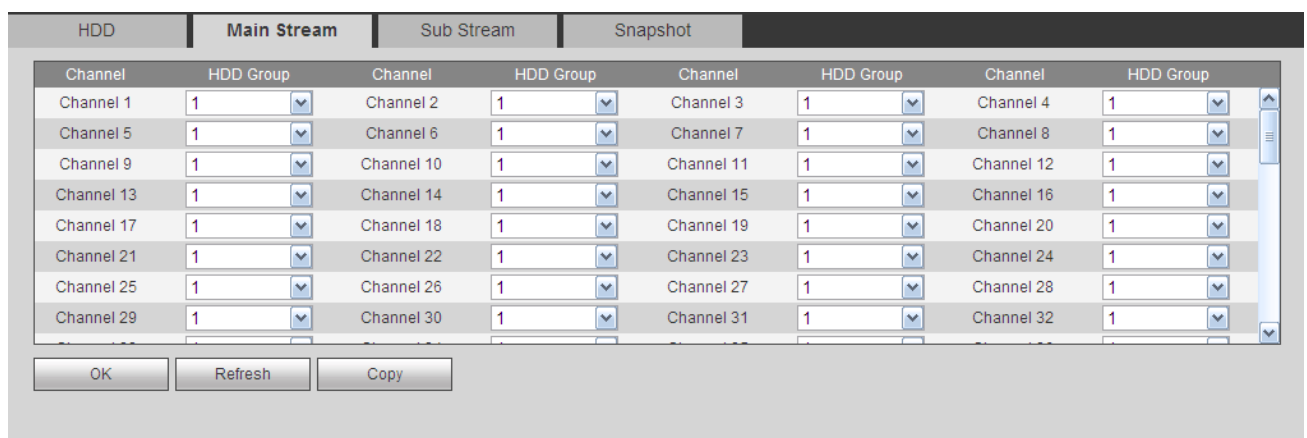
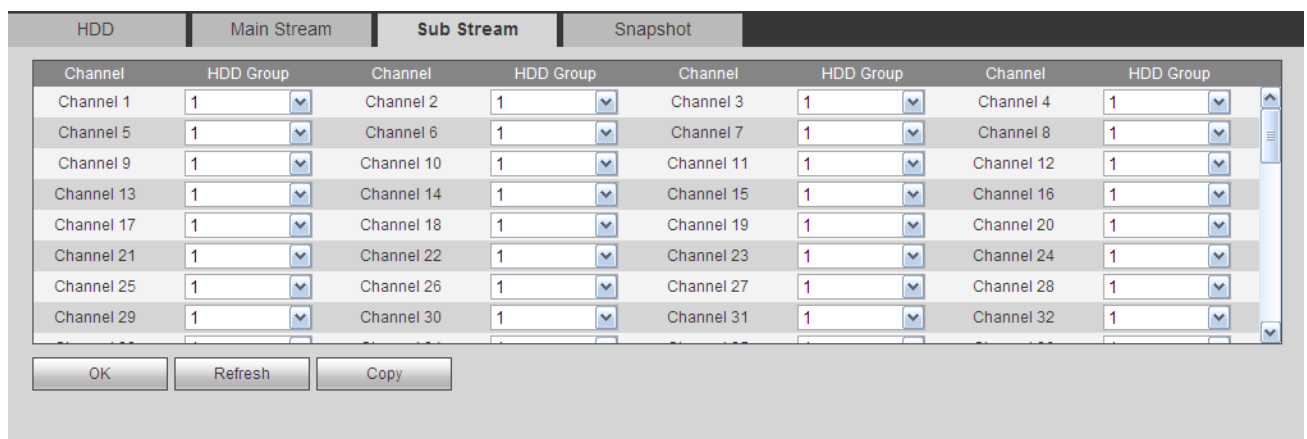
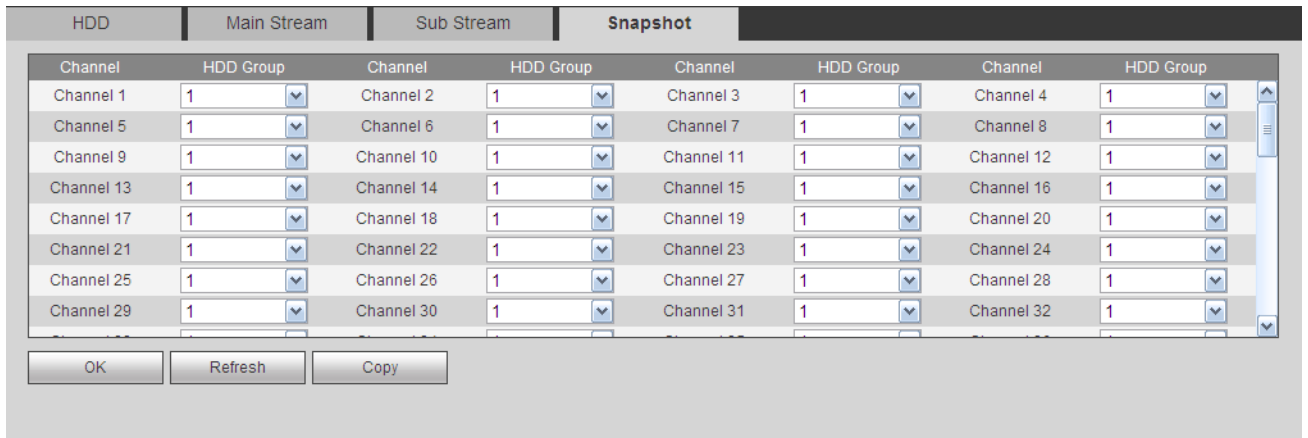

Figure 5-99
Figure 5-100
Figure 5-101
Step 3 After set HDD group, click main stream/sub stream/snapshot tab to save main stream, sub stream, snapshot image to different HDD group. See Figure 5-99, Figure 5-100, Figure 5-101